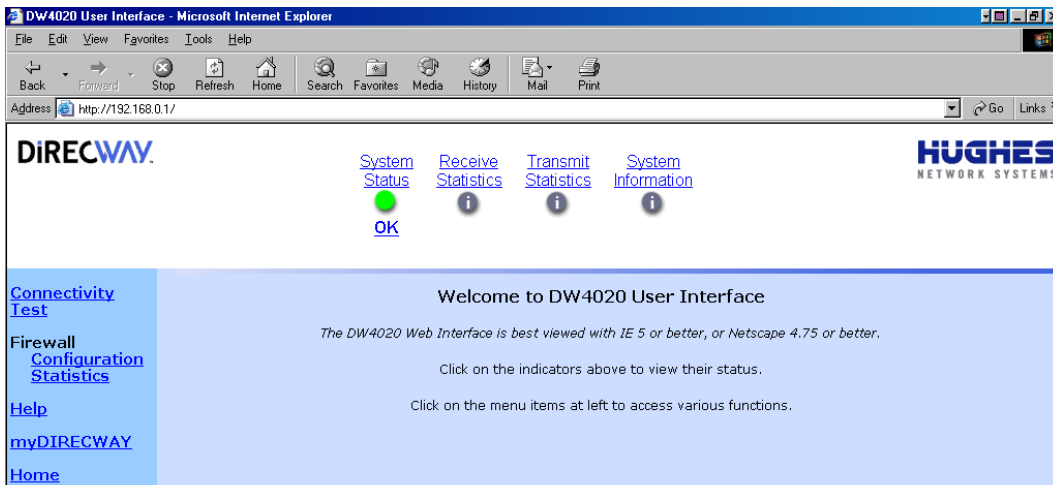

Figure 32: The User Interface Home screen
4. Press **ENTER**. The User Interface **Home** screen appears. See Figure 32. .